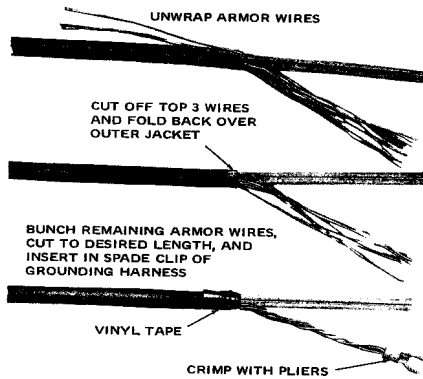

FIGURE 11. Preparation of Buried Service Wire for Termination on a Protected Terminal
- e. Buried Service wire can be terminated in a protector by preparing the end as shown in Figure 11. The spade clip connector can be placed on the ground post in a manner similar to placing the grounding harness connector (on buried service wire) on the ground post as described in paragraph 6.02 c.